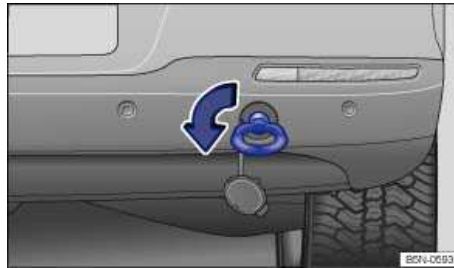

Fig. 215 On the right in the rear bumper: Screwing in the towing eye.
- Screw the towing eye **counterclockwise** into the threaded hole ⇒ fig. 215 as far as it will go ⇒ ⚠. Use the lug wrench to turn and tighten the towing eye.